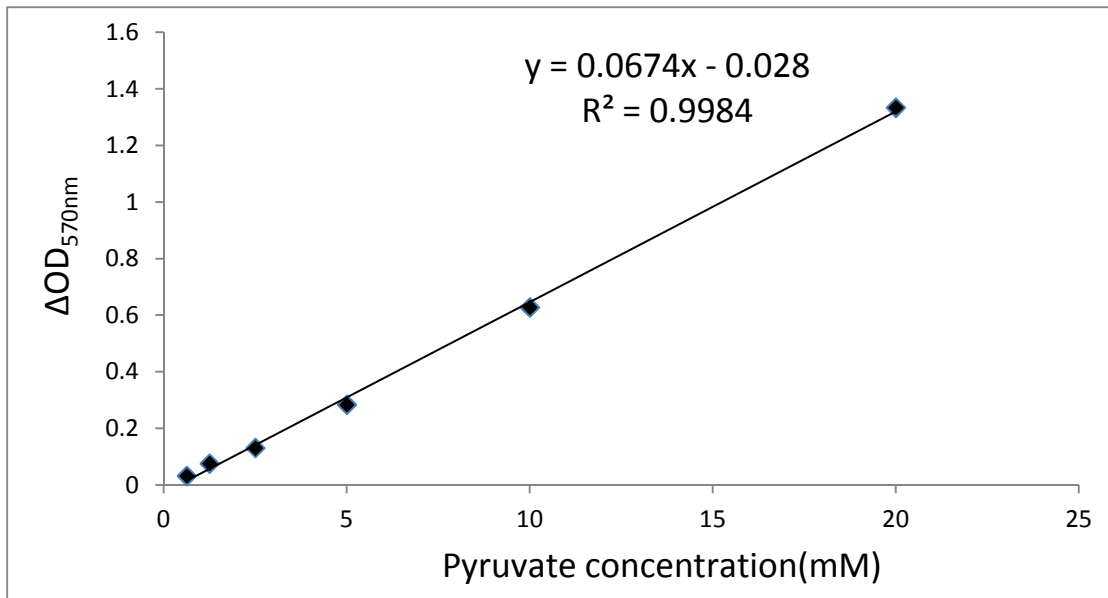

Figure1. A typical pyruvate standard curve measured by ScienCell™ Pyruvate Assay kit
Data from Pyruvate Assay of pyruvate solutions with concentrations ranging from 0.05 to 20 mM show a linear relationship between OD570nm and pyruvate concentration (Figure 1).
2. Based on the calibrated  $\Delta OD_{570nm}$  of the pyruvate standard, make a standard curve by plotting  $\Delta OD_{570nm}$  as a function of pyruvate concentration (See Figure 1 for a typical standard curve). Determine the equation and  $R^2$  value of the trend line.